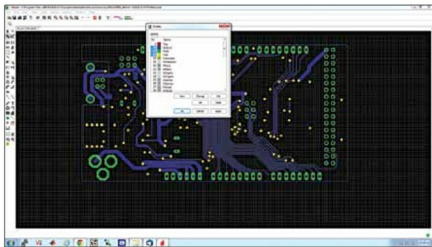

Fig. 1: Layers selection
1. Select the correct layers to be printed (shown in Fig. 1).